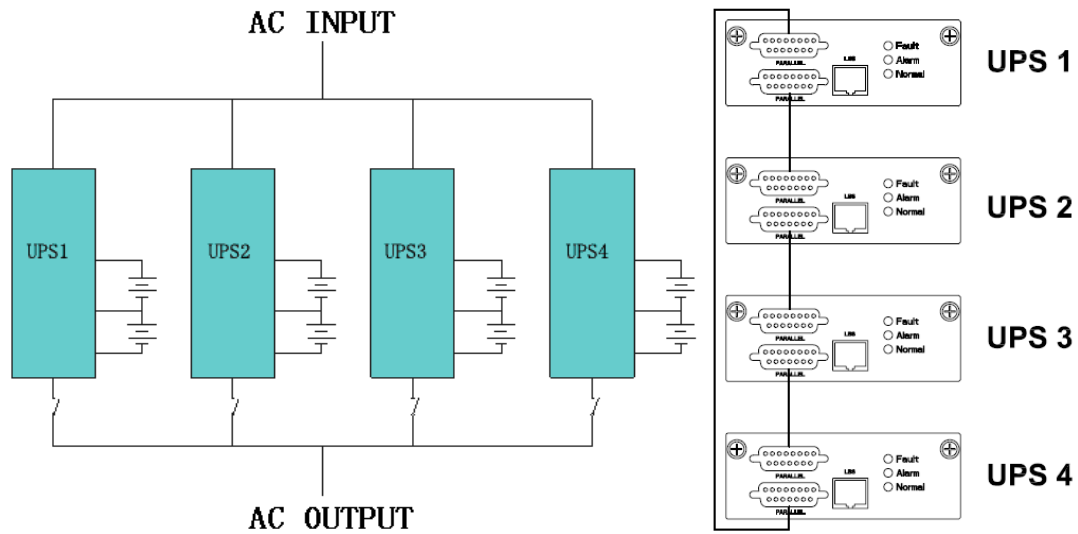

Figure 74: Parallel System Power/Control Connections (3-Phase UPS)
Follow the power and control wiring as indicated in Figure 74.
9. Connect the Parallel System Control (see Figure 74):
- a. Connect the shielded and double insulated control cables (one provided with each 3-Phase UPS unit) in a ring configuration between UPS units in the parallel system as shown in Figure 74. The ring configuration ensures high reliability of the control.